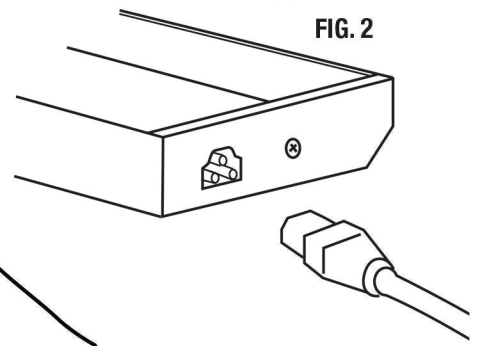

FIG. 2
2. Plug-in power cord to the INPUT socket. Do not force, it should plug-in easily. (FIG. 2)